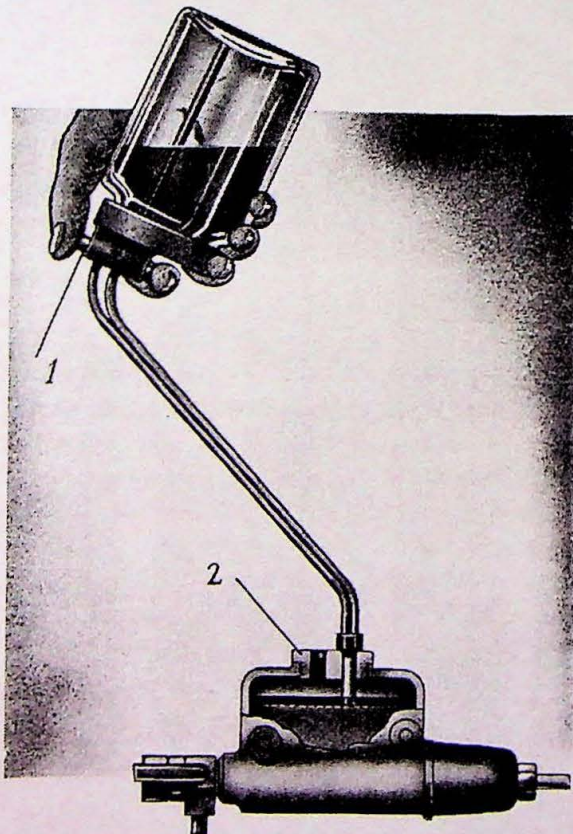

Fig. 27.
Use a special filler bottle when filling brake fluid, see Fig. 27.
Use the filler bottle as shown in Fig. 27 keeping the fluid level constant and at the right level. It should be used as follows: Screw in the plug (2) in the cover opening. Push the pipe through one of the holes in the plug and open the cock (1). When air-venting is finished close the cock and remove the bottle and plug.